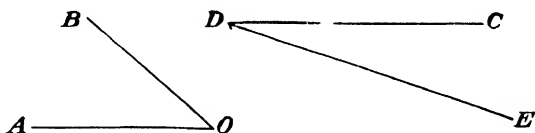

Fig. 117.
*In your notebook* draw two angles as shown in Fig. 117.
2. Divide  $\angle CDE$  in Fig. 117 into four equal parts. Check the results.